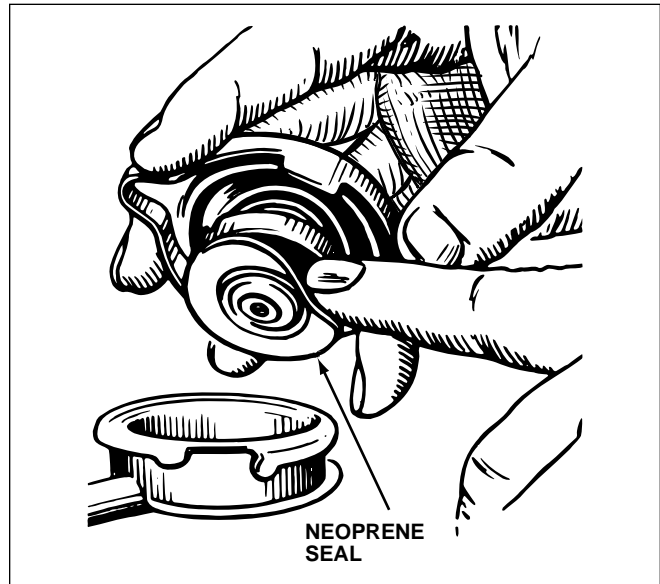

Fig. 4-11. Make sure the seal on the radiator cap is soft and pliable.
- Inspect the radiator cap; it must fit securely on the filler neck. Also, check for a brittle cap seal, insufficient spring action, and correct pressure rating, figure 4-11